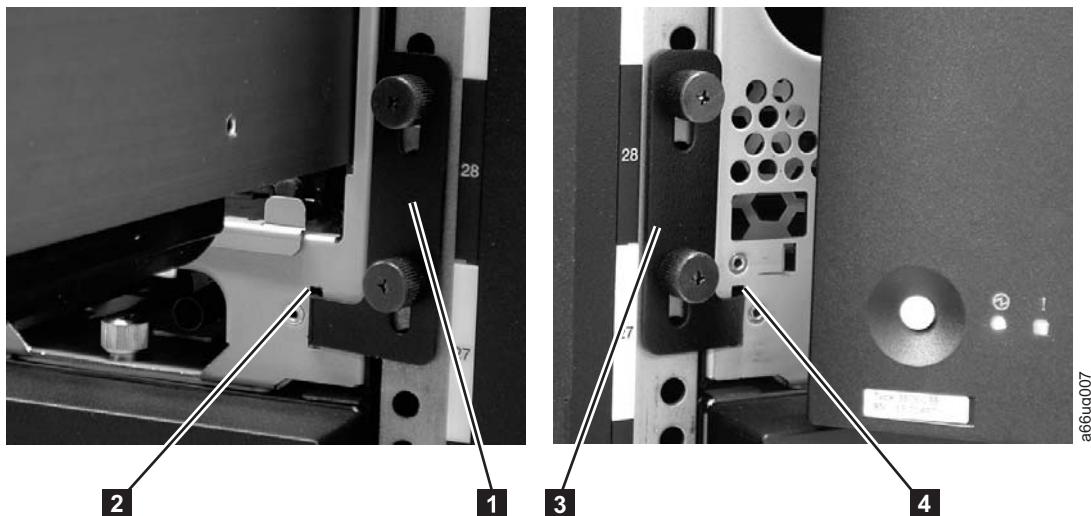

Figure 12-24. Removing the rack ears on a Control Module
- b. Remove the right rack ear (**2** in Figure 12-24).
- c. Remove the left rack ear (**3** in Figure 12-24).